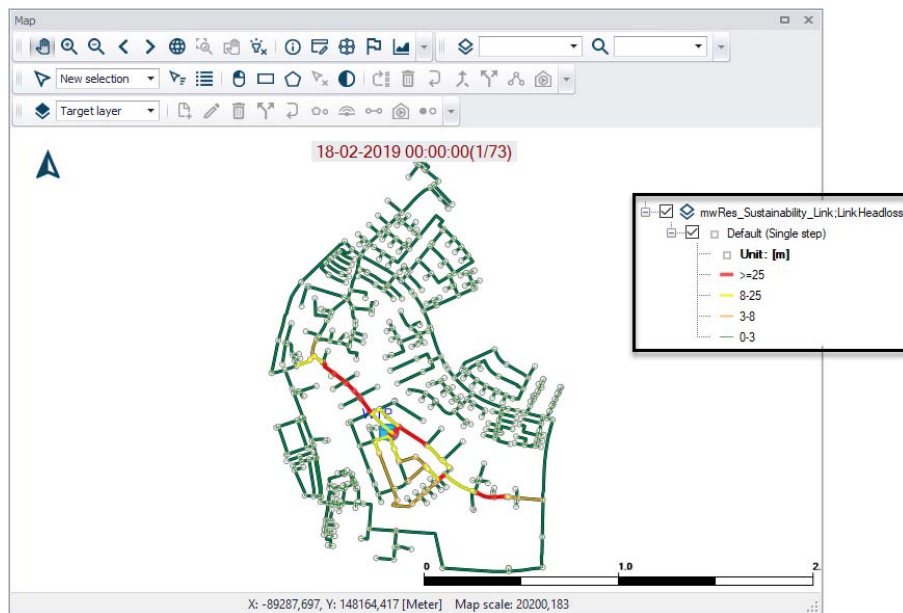

Figure 20.106 Example Sustainability Analysis Unit Head Loss results on the Map
Results from running the tool are added to the Map (Figure 20.106).
- Unit head loss: Link head loss per 1000 (see Figure 20.106)